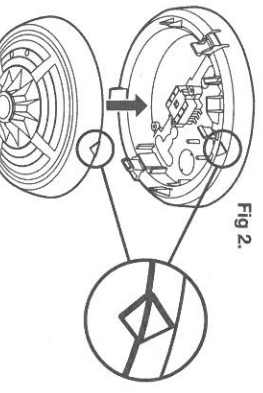

Fig 2.
4. Locate the molded arrow on the side of the base and smoke alarm see fig 2. Position the smoke alarm just below the base with both arrows in the same orientation and locate the alarm onto the base by gently applying pressure until the alarm 'clicks' into place.
- Press the test button on the alarm to ensure correct operation be re-installing. Locate the molded arrow on the side of the base and smoke alarm see fig 2. Position the smoke alarm just below the base with both arrows in the same orientation and locate the alarm onto the base by gently applying pressure until the alarm 'clicks' into place.